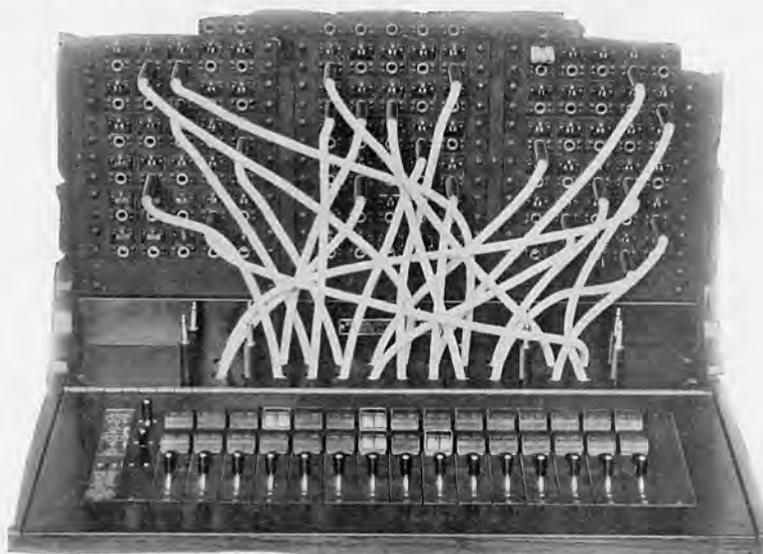

Fig. 14—Interlaced cords do not obscure clearing out signals.
2. The clearing-out signals are placed in the keyshelf where they are at all times plainly visible (See Fig. 14.) They cannot be hidden nor obscured by a screen of interlaced cords during busy hours, when most needed, as with switchboards having the common form of clearing-out drops. Hand restored clearing-out drops are also inconvenient to reach when covered by a heavy lacing of cords.
Two well-constructed cam type keys are mounted at the left of the keyboard for control of the repeating coils in the first two cord circuits. A printed designation instructing the operator as to the proper use of these keys is mounted under a transparent cover directly beside the keys. This designation may be plainly seen by referring to Fig. 14.